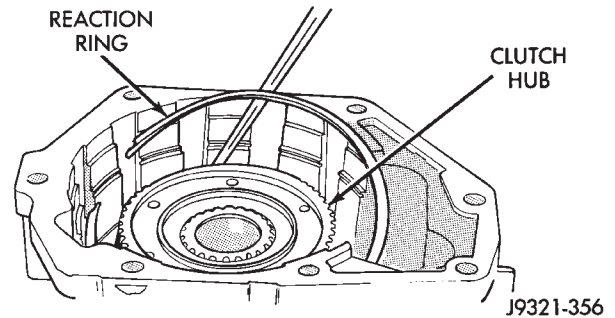

Fig. 234 Overdrive Clutch Reaction Ring Installation
(1) Install overdrive clutch reaction ring first. Reaction ring is flat with notched ends (Fig. 234).